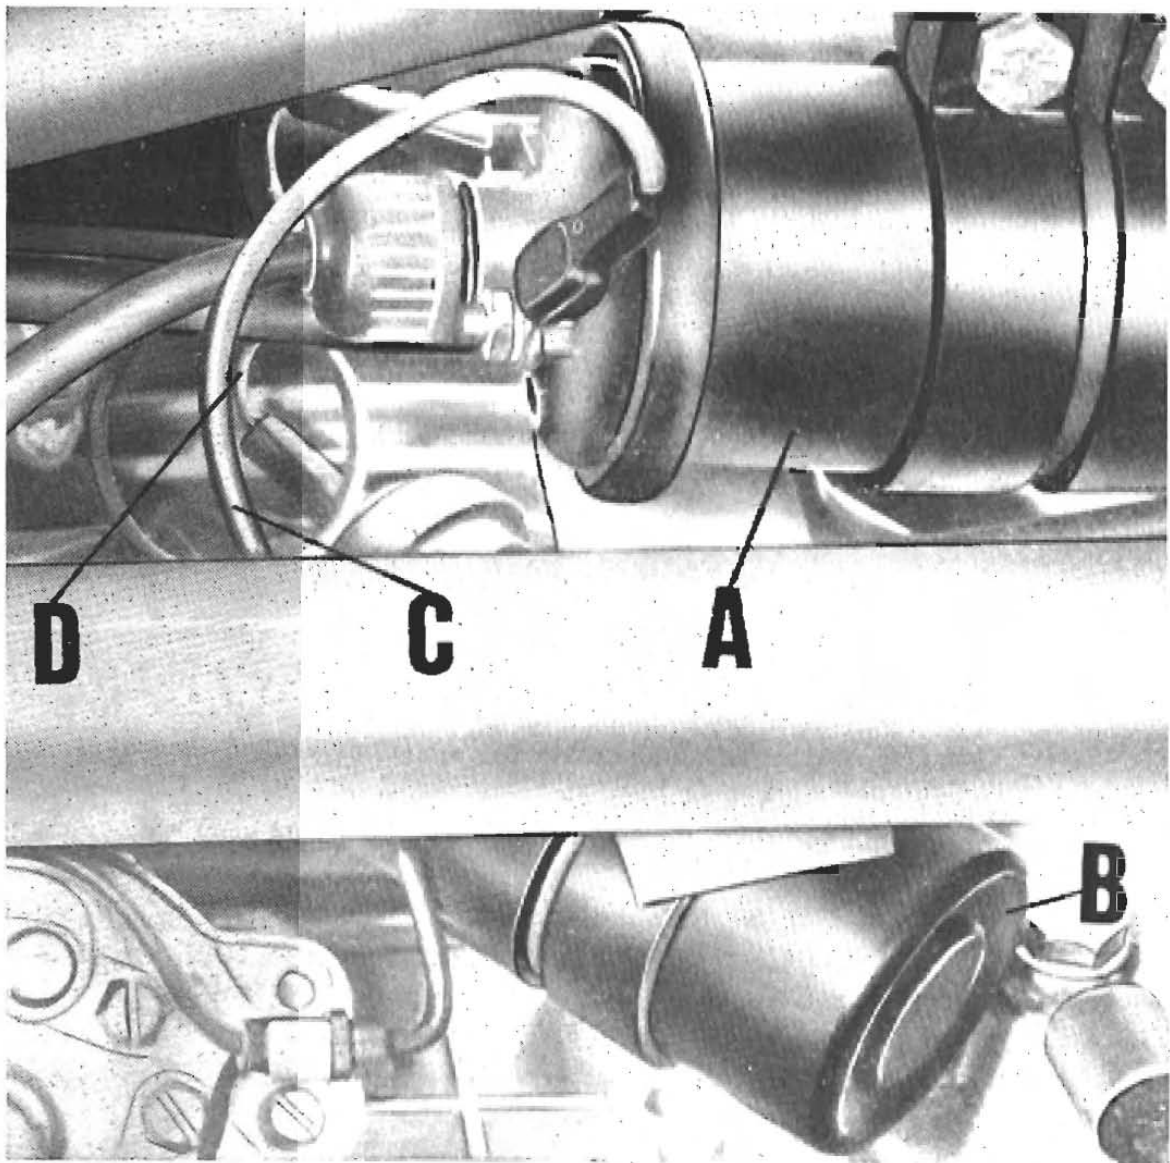

Fig. 22
Do not forget that red cable (C) of the R/H cylinder breaker has to be connected to coil A in fig. 22 and that the green cable (D) for the L/H cylinder breaker has to be connected to coil B in fig. 22.